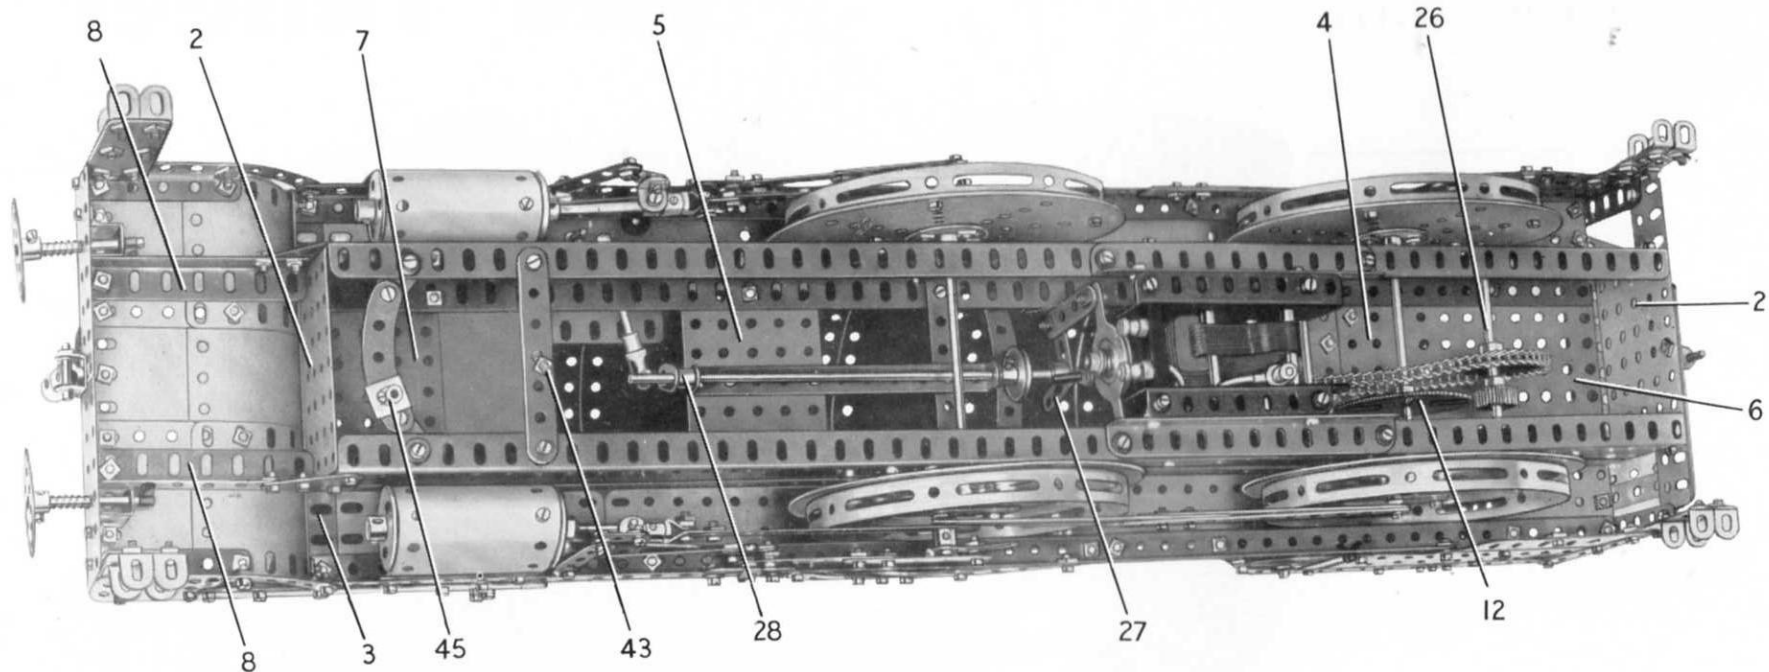
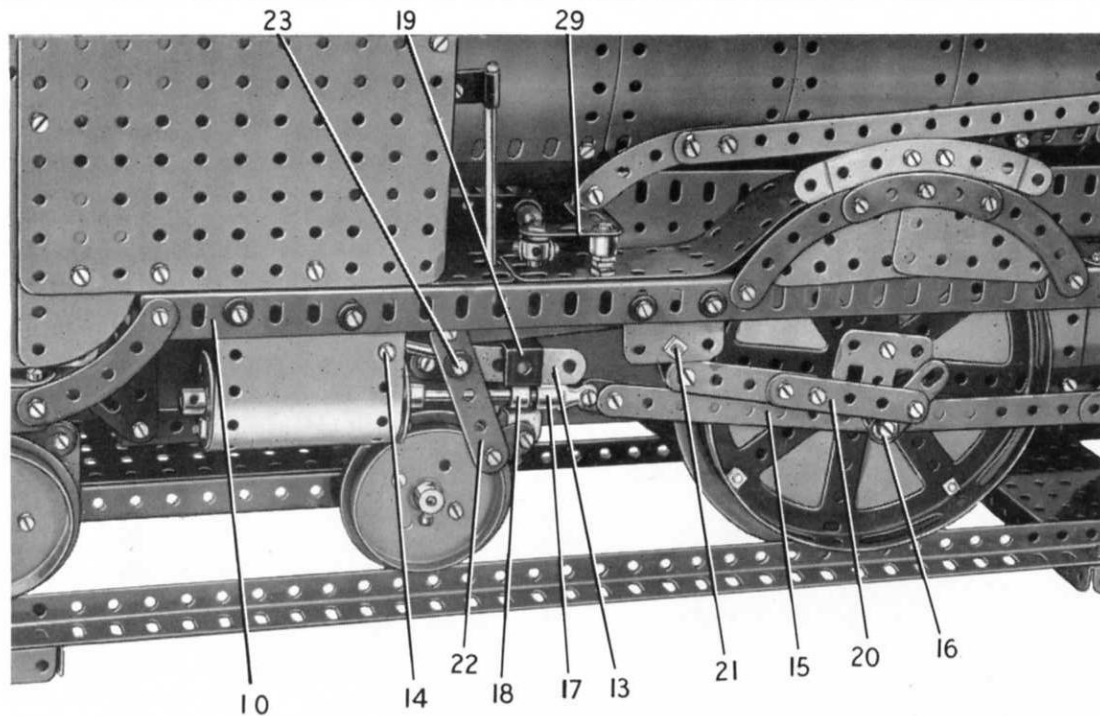
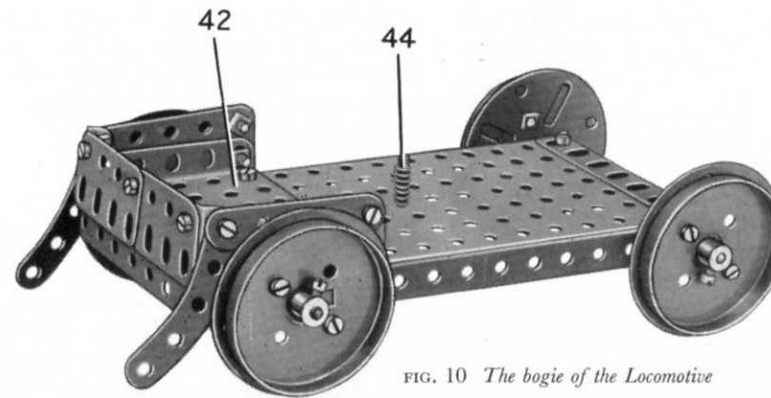

FIG. 2 Underneath view of the Locomotive showing details of the main frame and the driving arrangement
FIG. 4 A close-up picture of the valve motion and cylinder assembly
FIG. 10 The bogie of the Locomotive
Building the Model: The Main Frame and Running Plates (Figs. 2, 3 and 4)
The side-members are joined together at each end by $3\frac{1}{2}$ " \times $2\frac{1}{2}$ " Flanged Plates (2) (Fig. 2), the front one of which carries a built-up girder (3) made
The running plate on each side is made by bolting a $24\frac{1}{2}$ " Angle Girder (10) (Fig. 4) to the girder (3) and to $2\frac{1}{2}$ " Flat Girders fixed to the Flat Plate (6). Two $2\frac{1}{2}$ " \times $1\frac{1}{2}$ " Flexible Plates and three $5\frac{1}{2}$ " \times $1\frac{1}{2}$ " Flexible Plates are attached as shown to the Girder (10), and are curved to form the wheel splashers. The sides of the splashers over the leading driving wheels are each made from two $2\frac{1}{2}$ " \times $1\frac{1}{2}$ " Triangular Flexible Plates and three $2\frac{1}{2}$ " Curved Strips. The name-plate is represented by a 4" Stepped Curved Strip bolted to a 1" Triangular
from a $5\frac{1}{2}$ " and a 2" Angle Girder overlapped two holes. Two further $3\frac{1}{2}$ " \times $2\frac{1}{2}$ " Flanged Plates (4) and (5) are fixed across the main frame (Fig. 2), and a $5\frac{1}{2}$ " \times $2\frac{1}{2}$ " Flat Plate (6) is bolted across the rear end. A $5\frac{1}{2}$ " \times $3\frac{1}{2}$ " Flat Plate fixed to the Flanged Plate (4) and the Flat Plate (6), forms the footplate. A $3\frac{1}{2}$ " \times $2\frac{1}{2}$ " Flanged Plate (7) (Fig. 3) is attached to the front end of the main frame by Angle Brackets and a $3\frac{1}{2}$ " \times $\frac{1}{2}$ " Double Angle Strip.
At the front the main frame is extended forward by two $3\frac{1}{2}$ " Angle Girders (8) (Fig. 2), which are fixed to $1\frac{1}{2}$ " Corner Brackets. The front ends of the Girders (8) are connected by a built-up girder (9) (Fig. 3) made from a $5\frac{1}{2}$ " Angle
The dropped section of the frame at the front (Fig. 3) is plated by three $1\frac{1}{16}$ " radius Curved Plates and three $2\frac{1}{2}$ " \times $2\frac{1}{2}$ " Flexible Plates bolted between the girders (3) (Fig. 2) and (9) (Fig. 3). The outer $2\frac{1}{2}$ " \times $2\frac{1}{2}$ " Flexible Plates are edged by $2\frac{1}{2}$ " Angle Girders, and these are connected to the Girders (10) (Fig. 4) by $2\frac{1}{2}$ " Curved Strips. The steps are Angle Brackets fixed to $2\frac{1}{2}$ " Flat Girders, which are supported by the $2\frac{1}{2}$ " Angle Girders.
Driving Wheels and Motion (Figs. 2, 4 and 6)
Each of the main driving wheels consists of a Hub Disc bolted to a 6" Circular Plate, at the centre of which a Bush Wheel is bolted. The wheels are fixed in pairs on 5" Rods supported in the main frame (see Fig. 2), and at each end of each Rod a Double Arm Crank is held by its grub screw. A Flat Trunnion is fixed to each Double Arm Crank by a $\frac{1}{2}$ " Bolt, which passes also through a hole in the wheel (see Fig. 4). The Flat Trunnions form the crank assemblies. A $2\frac{1}{2}$ " Gear (12) (Fig. 2), is fixed on the rear 5" Rod.
The Strip (15) is extended by a Fishplate that is *lock-nutted* to an End Bearing (17) (Fig. 4) on a $3\frac{1}{2}"$ Rod. This Rod slides freely in the Flanged Wheel forming the rear cover of the cylinder, and on it a Collar (18) is fixed. A $\frac{3}{4}"$ Bolt is then passed through the lugs of a Double Bracket (19) and is screwed into a hole in the Collar, so that the Double Bracket is able to slide freely on the slide bar (13).
Arrangement of the Motor and Reduction Gearing (Figs. 2, 4, 5 and 6)
The E15R Electric Motor used to drive the model is attached by Angle Brackets to two $5\frac{1}{2}$ " Angle Girders bolted underneath the main frame (Fig. 5). A $\frac{1}{2}$ " Pinion on the Motor shaft drives a 57-tooth Gear on a $2\frac{1}{2}$ " Rod (24), which is passed through the Motor side-plates. A $\frac{1}{2}$ " Pinion on Rod (24) is meshed with another 57-tooth Gear on a 2" Rod (25). This Rod also is supported in the side-plates, above Rod (24), and it carries a $\frac{3}{4}$ " Sprocket connected by Chain to a 2" Sprocket on a 4" Rod (26). A $\frac{3}{4}$ " Pinion on Rod (26) engages the $2\frac{1}{2}$ " Gear (12) (Fig. 2) on the rear driving axle.
A 2" Strip is lock-nutted to one arm of the Motor switch and to a Bell Crank (27) (Fig. 2). The Bell Crank is fixed on an 8" Rod supported in a $5\frac{1}{2}$ " \times $\frac{1}{2}$ " Double Angle Strip bolted to the Flanged Plate (5) and to a $3\frac{1}{2}$ " Strip placed across the main frame. The Rod carries a Crank (28), and a Swivel Bearing is pivoted on a $\frac{1}{2}$ " Bolt fixed in this Crank by two nuts. The Swivel Bearing is mounted on a 2" Rod fitted at its other end with a second Swivel Bearing, and this is pivotally attached to a Bell Crank (29) (Fig. 6) by a $\frac{1}{2}$ " Bolt that is fixed by two nuts. The Bell Crank is freely mounted on a $\frac{3}{4}$ " Bolt, and
is held against the head of the Bolt by two nuts screwed against each other (see Fig. 4). The Bolt is then fixed in the running plate by two nuts.
At its front end the boiler is bolted to the Flanged Plate (7) (Fig. 3) and at the rear is supported by a Double Bent Strip fixed to the Flanged Plate (4) (Fig. 2). The chimney consists of three 1" loose Pulleys and two Wheel Discs held in place by a $\frac{3}{4}"$ Bolt. A Rubber Ring is fitted to each Pulley.
A $12\frac{1}{2}$ " Flat Girder (33) (Fig. 1) on each side is fixed to the flanges of the Flanged Plates (5) and (4) (Fig. 2).
The footplate is extended by a $4\frac{1}{2}$ " \times $2\frac{1}{2}$ " Flat Plate (37), fitted at each end with a $2\frac{1}{2}$ " Strip and at the back with a $5\frac{1}{2}$ " Strip. The $5\frac{1}{2}$ " Strip is connected to the Plate (6) (Fig. 2) by two $\frac{1}{2}$ " Bolts, but is spaced from the Plate by a Cord Anchoring Spring on each Bolt.
Construction of the Bogie (Fig. 10)
The bogie is made by bolting a $5\frac{1}{2}$ " \times $3\frac{1}{2}$ " Flat Plate and a $3\frac{1}{2}$ " \times $2\frac{1}{2}$ " Flanged Plate (42) (Fig. 10) to a $7\frac{1}{2}$ " Angle Girder on each side. A $3\frac{1}{2}$ " Angle Girder is bolted to one end and a $3\frac{1}{2}$ " \times $\frac{1}{2}$ " Double Angle Strip is fixed to the other end. A $2\frac{1}{2}$ " \times $1\frac{1}{2}$ " Flexible Plate is attached to each flange of the Plate (42) and is edged by a $2\frac{1}{2}$ " Strip and fitted with a $2\frac{1}{2}$ " Curved Strip arranged as shown. At the front two 2" Flat Girders are bolted together and are attached to the Flexible Plate by Angle Brackets. The bogie wheels are Wheel Flanges and Face Plates bolted together, and they are fixed on 5" Rods. Each of the Rods is held in place by two Collars.
The bogie is *lock-nutted* on a $1\frac{1}{8}$ " Bolt (43) (Fig. 2), which passes through a $3\frac{1}{2}$ " Strip bolted across the main frame. A $\frac{3}{4}$ " Bolt (44) (Fig. 10) is passed through the bogie and on it is placed a Compression Spring. The Bolt is then fixed in a Slide Piece (45) (Fig. 2), which is carried on a $2\frac{1}{2}$ " Curved Strip attached to the main frame by Fishplates.